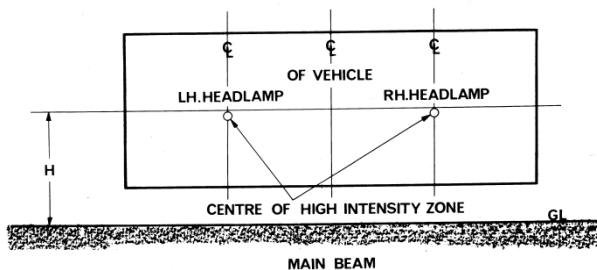
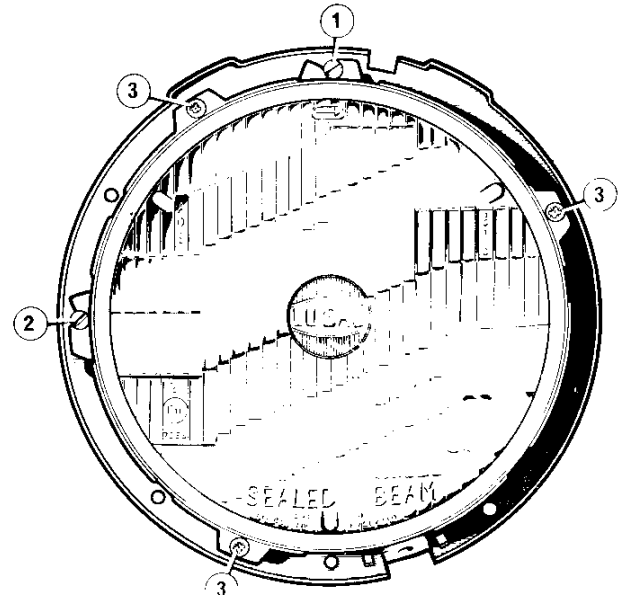

Figure 12 Headlamp alignment
Figure 13 Headlamp adjustment
3. Measure the height from the ground to the centre of the headlamp and adjust the board so that the dividing line "H" marked on the board corresponds. (Figure 12)
6. The LH headlamp should be set until the area of concentrated light (the "hot spot") is focused just below "H" on the aiming board, on the centre line which is the centre of the headlamp as shown in Figure 12. Vertical adjustment is obtained by adjusting screw 1 (Figure 13) and horizontal adjustment by screw 2. With the main beam correctly set, the dipped beam will also be correct.